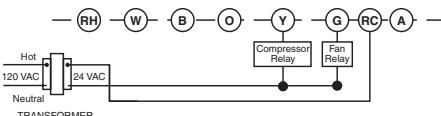
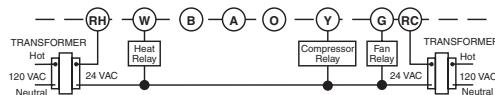

Figure 2. Typical wiring for single transformer heating/cooling system
Figure 3. Typical wiring for two-transformer heating/cooling system
- If your system has more than two wires: Use the cross reference chart to determine correct wire connections. If you have a four-wire heat/cool system leave the factory installed jumper between **RC** and **RH** attached (see Fig 2.). If your system has five wires remove the factory installed jumper between **RC** and **RH** (see Fig 3.).